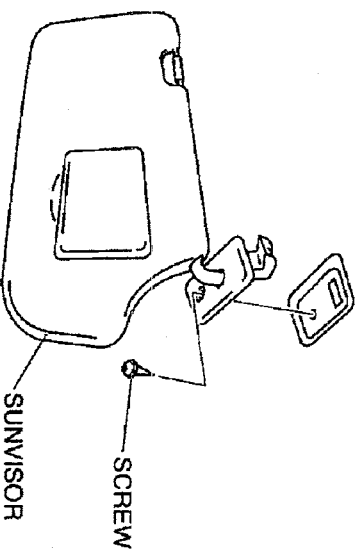

FIGURE 26
- 1.) REMOVE THE SCREW. (SEE FIGURE 26)
- 2.) UNHOOK AND REMOVE THE SUNVISOR. (SEE FIGURE 26)